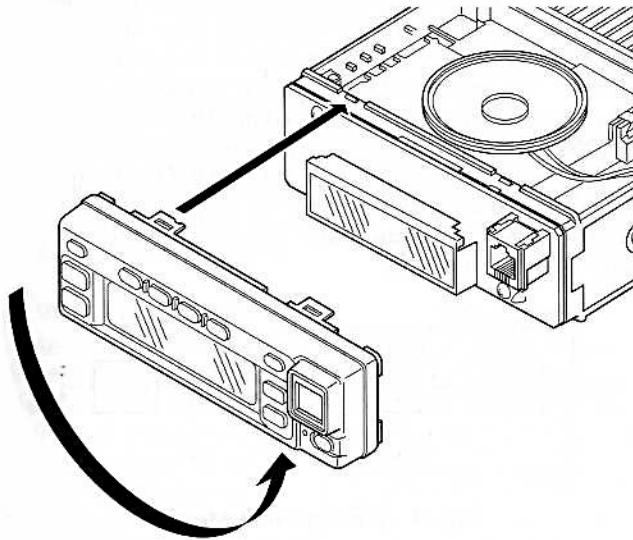

Fig. 10
6. Rotate the control panel 180 degrees and mount it on the transceiver. Refit the two halves of the case to complete installation. (Fig. 10)